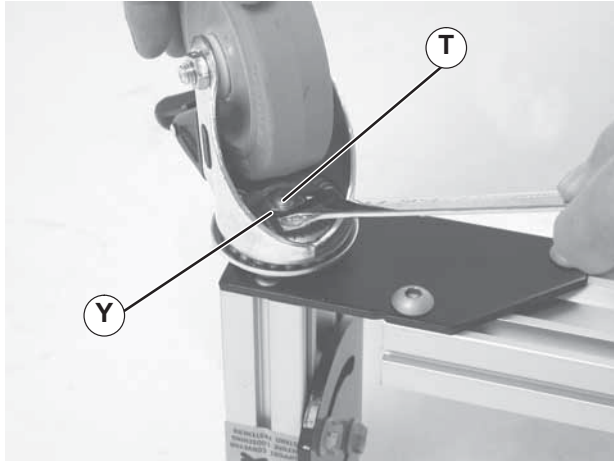

Figure 13
2. Place nut (Figure 13, item Y) on bolt (V). Tighten nut to 177 in-lb (20 N-m).